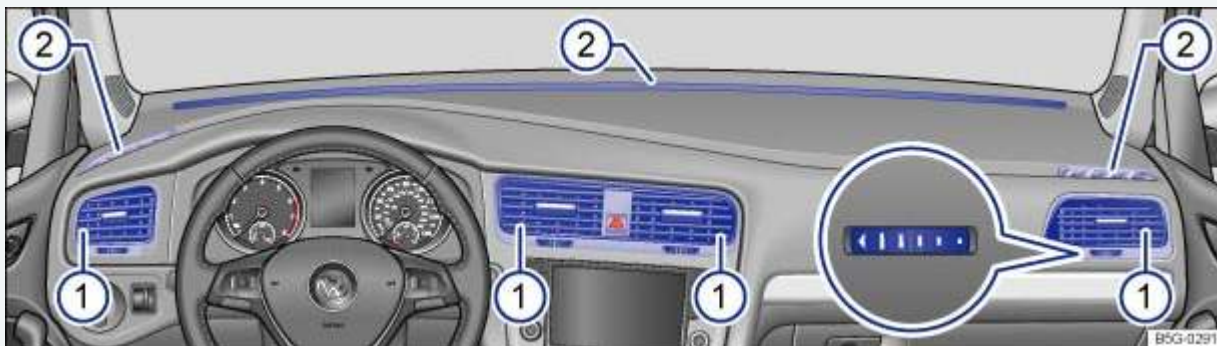

Fig. 193 In the instrument panel: Air vents.
To help ensure sufficient heating, cooling, and ventilation in the passenger compartment, never close the air vents completely ⇒ Fig. 193①.
Additional, non-adjustable air vents are located in the instrument panel ⇒ Fig. 193②, in the footwells, as well as in the rear area of the passenger compartment.